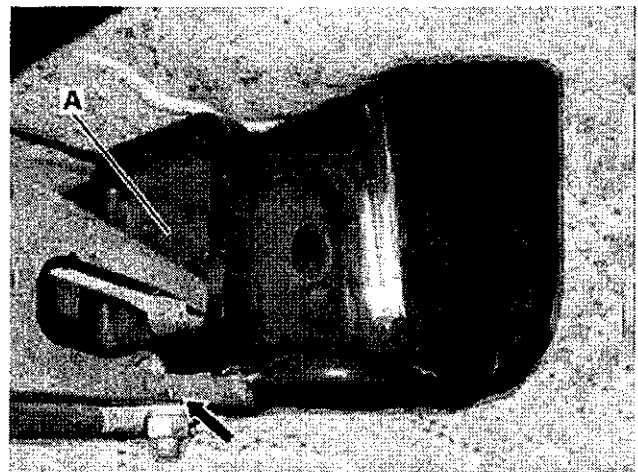

Figure 4
5. Attach welder's ground cable (arrow, Figure 4) to trailer hitch (A).